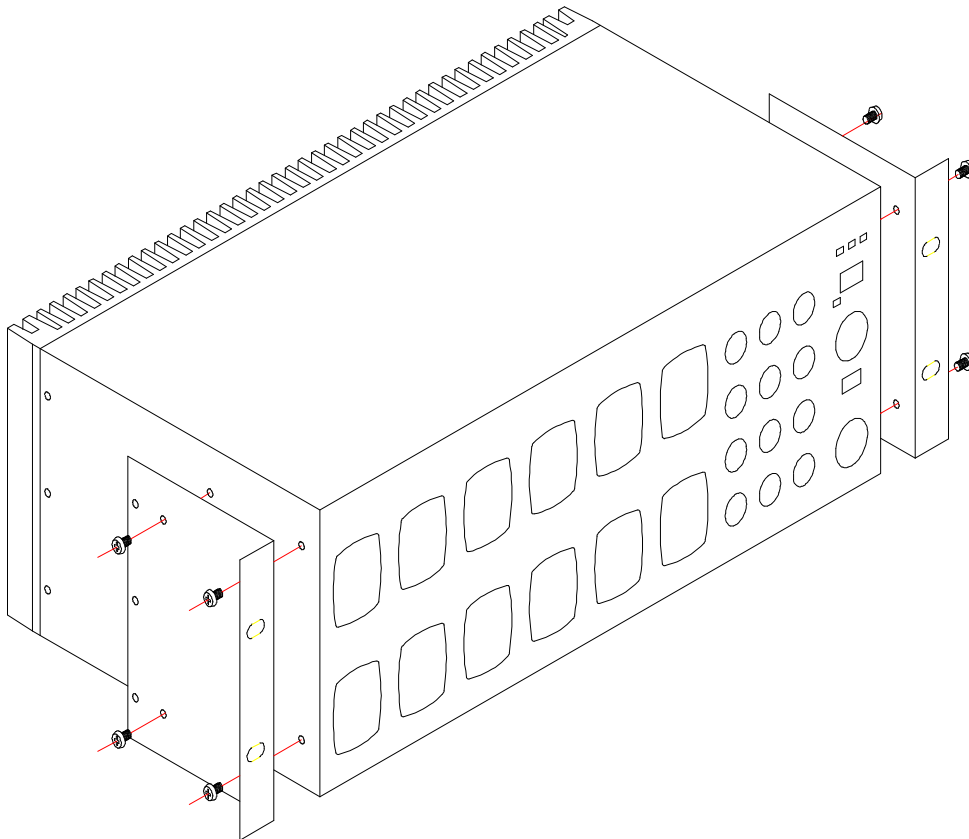

Figure 6.1 Using the front rack mounting ears
- First remove the four M4 screws from the left side of the chassis. Attach the front mounting bracket using the same four screws. See Figure 6.1 below.